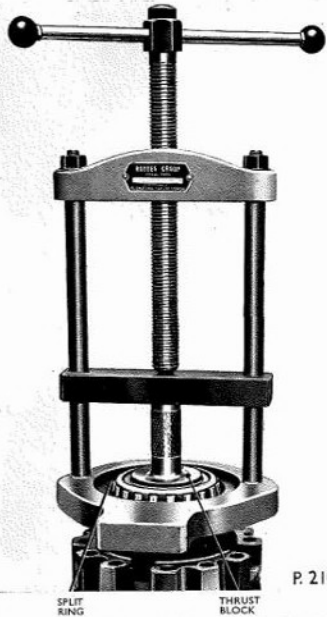

Fig. G.30. Withdrawing the bearing cone from the differential case, using the Churchill Tool R.G.4221B and the adaptor set R.G.4221B-15
8. The bearing cone and rollers may be withdrawn from the differential case bosses with the aid of Churchill Main Tool R.G.4221B, in conjunction with the Adaptor Set R.G.4221B-15 (see Fig. G.30).